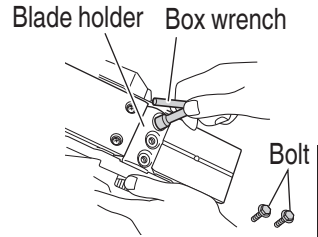

Fig. 13
- (1) As shown in **Fig. 13**, use the box wrench to loosen the three bolts used to retain the carbide blade, and remove the blade holder.
- (1) As shown in **Fig. 13 on page 21**, use the accessory box wrench to loosen the three bolts used to retain the blade, and remove the blade holder.